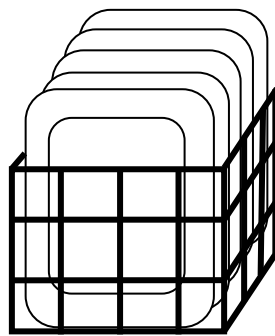

Figure 60
- D. If implements are treatment plate, make sure to arrange items as shown in Figure 60.